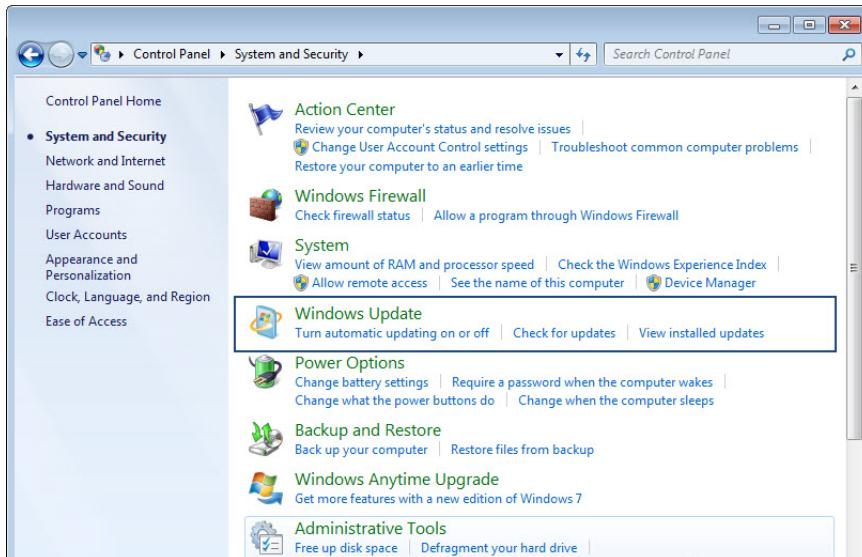

Figure 2-5. Deactivating automatic updates (A)
- 1 Under **System and Security**, choose **Windows Update** (Figure 2-5).